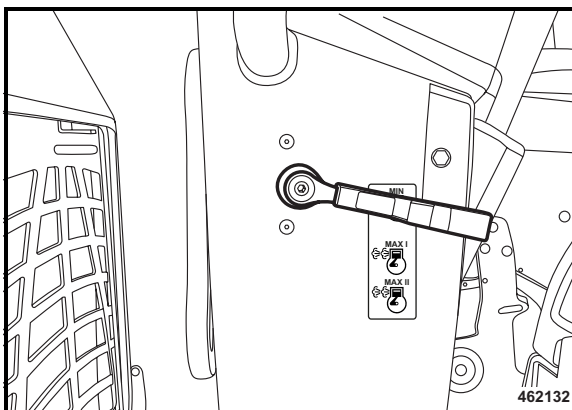

Fig. 54
- Set the throttle lever (Fig. 54) to position "MIN".